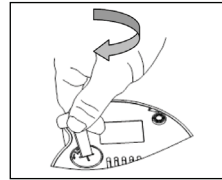

Fig. 4
4. Replace the battery cover and turn it clockwise, make sure the cap is properly retained, Figure 4.